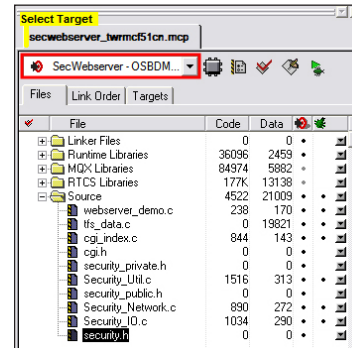

Figure 1: Project Loaded in the CodeWarrior IDE
3. In the project pane, select "SecWebserver - OSBDM Debug Int. Flash" build target. See Figure 1.